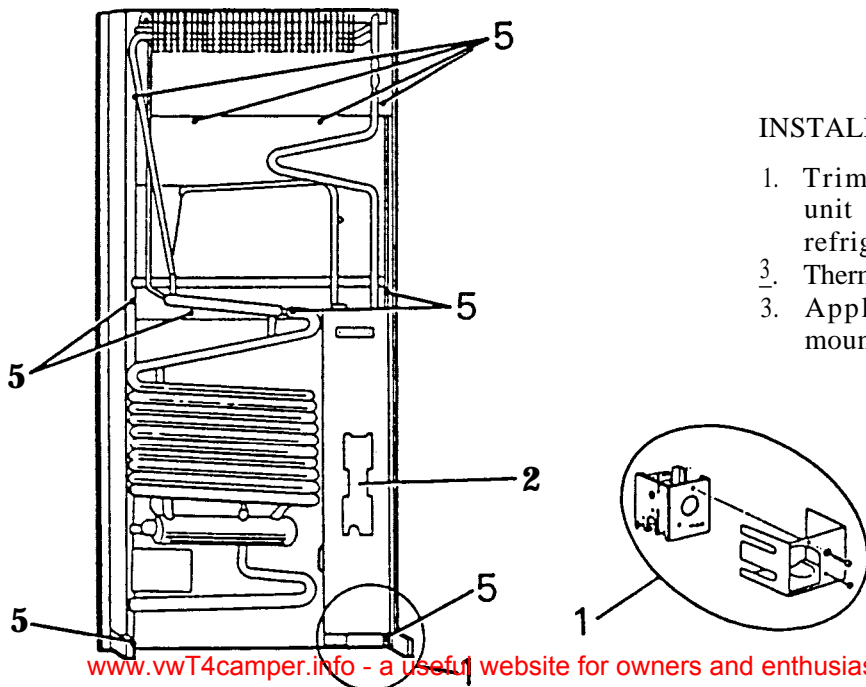

FIG. F1
1. Remove burner protection cover and remove burner from chimney (FIG. F1).
2. Remove heaters from boiler case (FIG. F1).
5. Remove ten (10) screws holding unit from rear (FIG. F1).
5. Install heating elements completely back into the pocket and plug in (FIG. F1).
6. Reconnect burner assembly to chimney (FIG. F1).